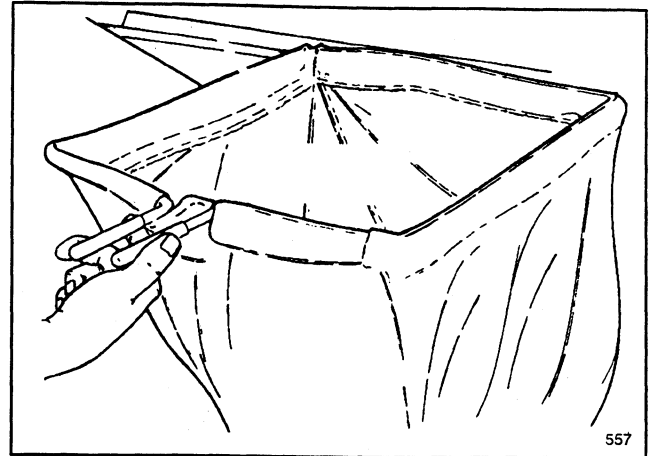

Figure 7
3. Slide grass bag under bag frame cover, position- ing front edge of bag rod into screen support bracket on bag frame (Fig. 7).